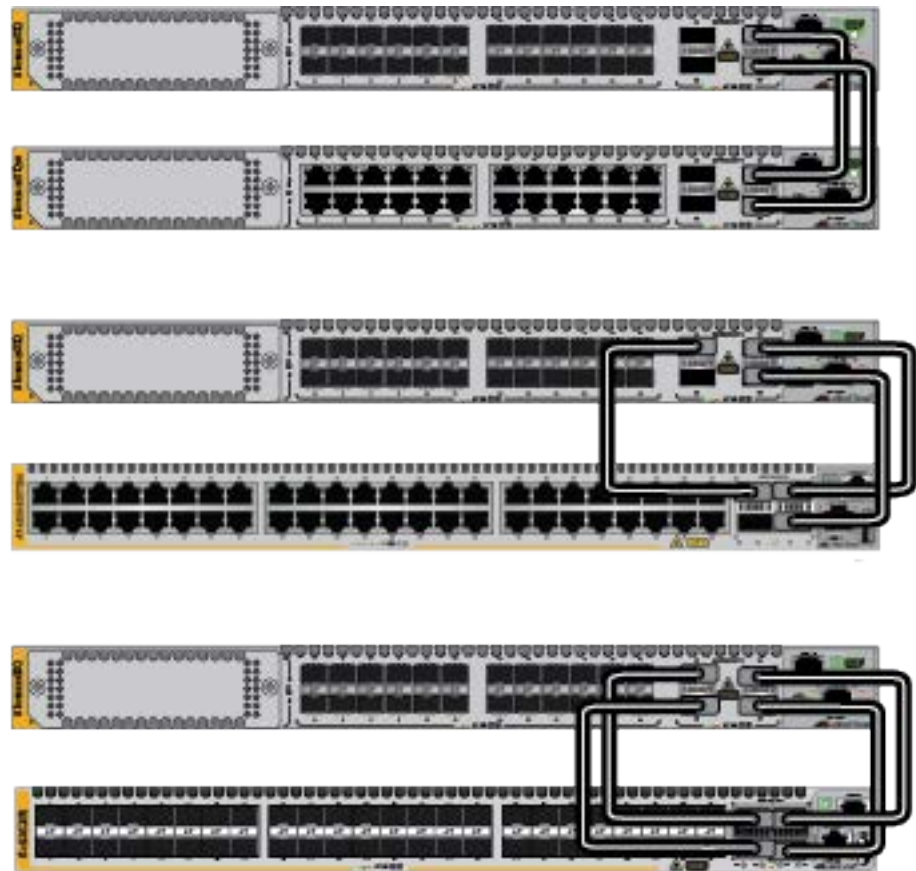

Figure 33. Stack Trunk Examples of Two Switches with Trunk 40G Links
- ❑ For stacks of two switches, you can use two, three, or four ports per switch for trunks. Examples are show in Figure 33.